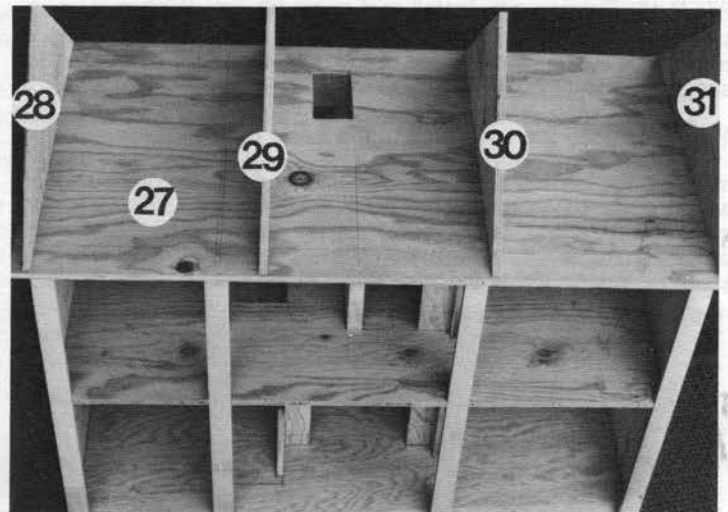

Fig. 15
STEP 13: Using only two small dots of hot glue on each, temporarily install roof supports 28, 29, 30, and 31 onto attic floor 27. Later the entire roof assembly will be removed for detail work. (FIGURE 15).